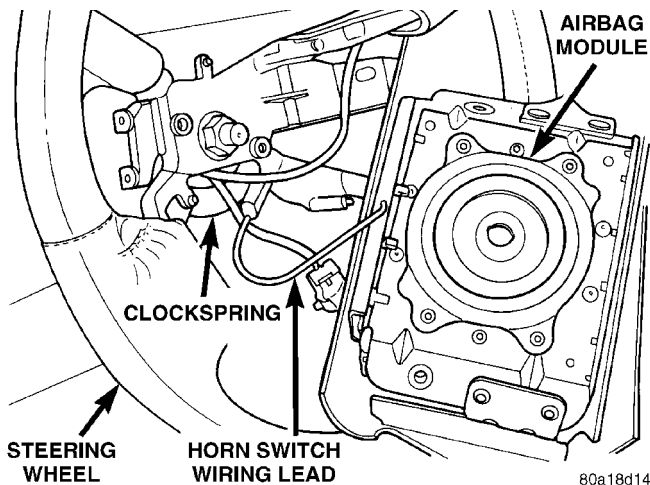

Fig. 11 Clock Spring To Horn Switch Wiring Connection
(8) Disconnect the wiring lead for the horn switch in the airbag module from the wiring lead coming from the clockspring (Fig. 11).
(14) Install steering wheel to steering column shaft retaining nut and tighten until steering wheel is fully installed on shaft. The tighten steering wheel retaining nut to a torque of 61 N·m (45 ft. lbs.).
(15) Connect the clockspring electrical leads to components such as horn switches and speed control switches located in the steering wheel (Fig. 11).